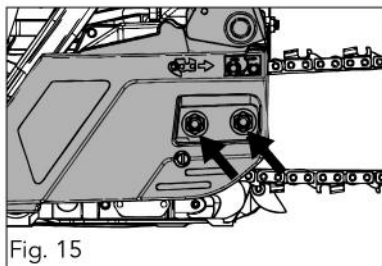

Fig. 15
11. Using your finger, loosely fit side cover nuts (15) (fig. 15) and adjust chain (9) to correct tension. (see **Adjusting chain the tension** on next page).